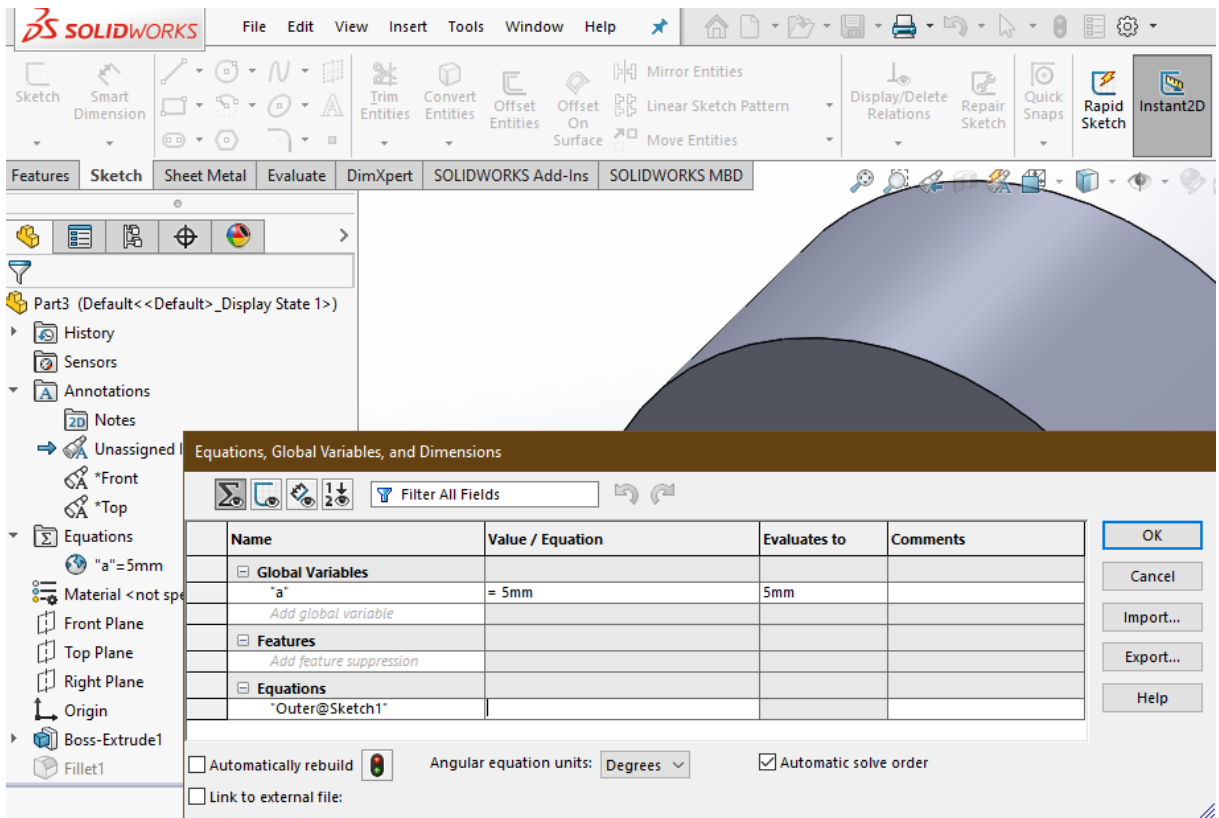

Figure 33 – Adding a dimension name
- click on the required size of the model in the graphic area (pre-check the display of *Show Feature Dimensions*), after which the name of the size will appear in the corresponding section of the parameter calculation table (Fig. 33);